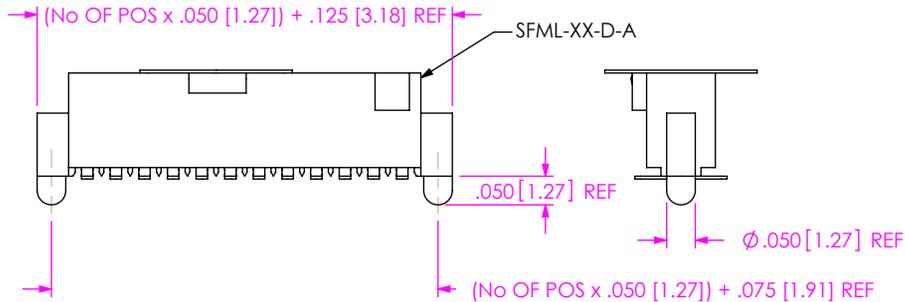

FIG 5
- A: ALIGNMENT PIN (USE SFML-XX-D-A) (SEE FIG 5, SHT 3)